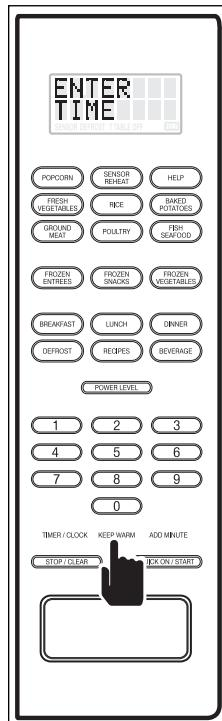

Figure 3-39.
1. Press the KEEP WARM key and "ENTER TIME" will appear on the display (See Figure 3-39).